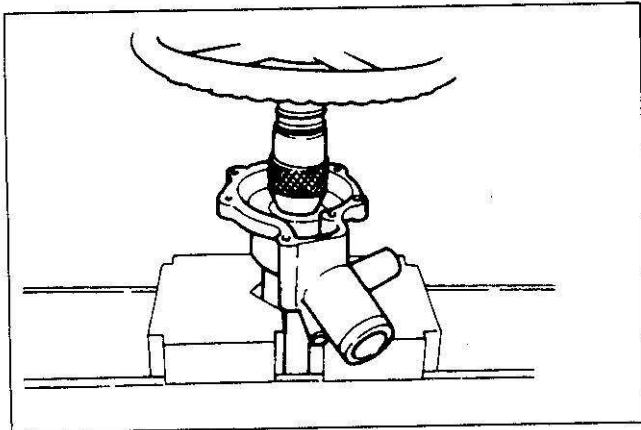

Figure 12. Removing Spindle, Bearing and Spacer
6. Spindle, bearings and spacer (4, 5, 6, 9) using a bench press and suitable remover (figure 12).